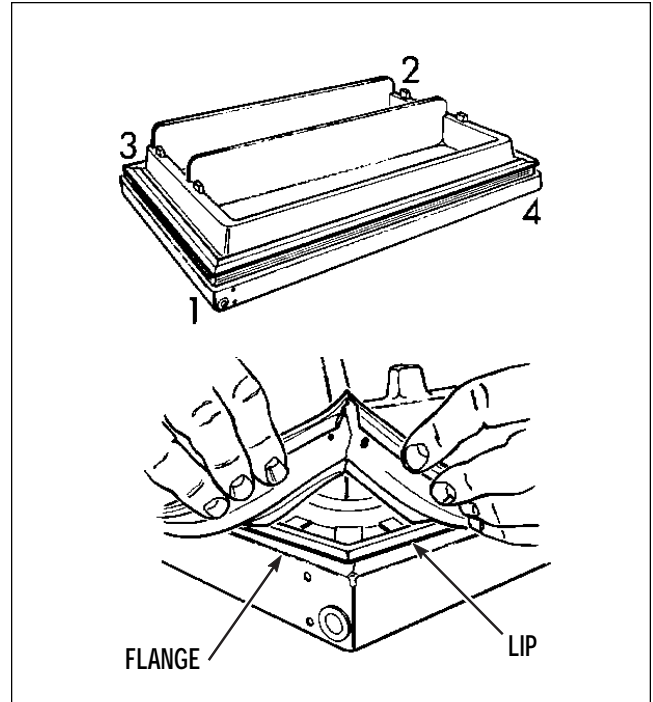

Figure 157
1. To install the service gasket, start at opposite corners. The hard lower section of the gasket will slide under the lip of the inner panel. See Figure 157.